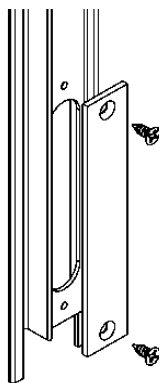

Figure 12:
8. On doors with meeting stiles, a stainless-steel cover is provided to cover the oblong holes at the bottom of the male meeting stile (Figure 12).